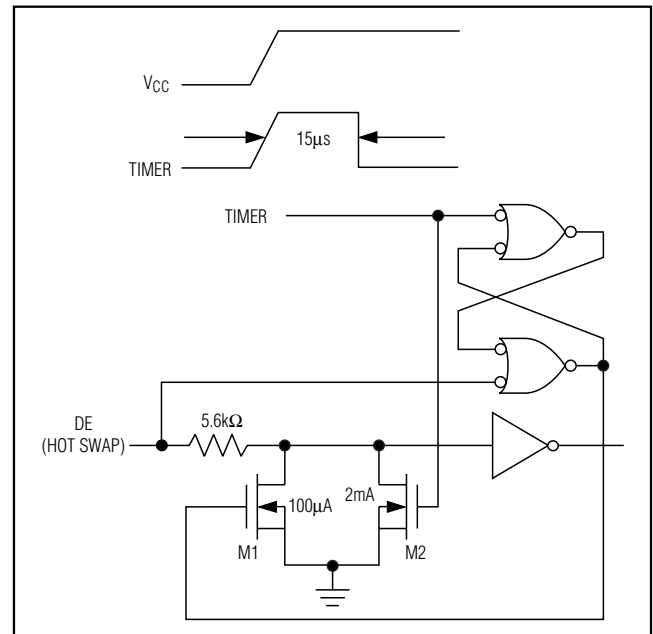

Figure 10. Simplified Structure of the Driver Enable Pin (DE)
At the driver-enable input (DE), there are two NMOS devices, M1 and M2 (Figure 10). When VCC ramps from zero, an internal 15µs timer turns on M2 and sets the SR latch, which also turns on M1. Transistors M2, a 2mA current sink, and M1, a 100µA current sink, pull DE to GND through a 5.6kΩ resistor. M2 pulls DE to the disabled state against an external parasitic capacitance up to 100pF that may drive DE high. After 15µs, the timer deactivates M2 while M1 remains on, holding DE low against tri-state leakage currents that may drive DE high. M1 remains on until an external current source overcomes the required input current. At this time, the SR latch resets M1 and turns off. When M1 turns off, DE reverts to a standard, high-impedance CMOS input. Whenever VCC drops below 1V, the input is reset.